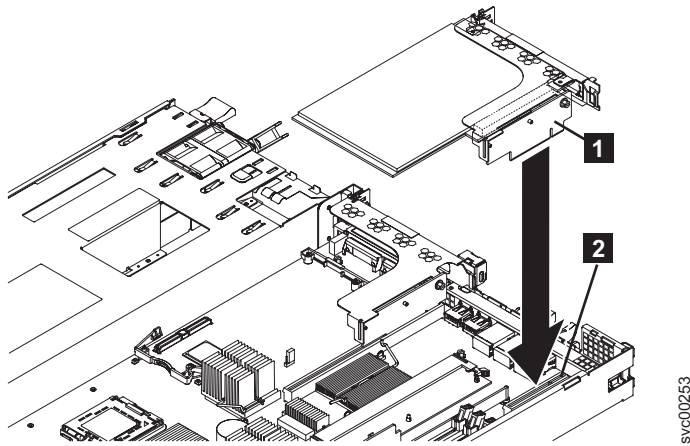

Figure 182. Replacing the riser-card assembly for the SAN Volume Controller 2145-8G4
1. As you start inserting the adapter, align the edge connector on the low-profile adapter **1** with the connector **3** on the riser-card assembly **4**. Make sure that the adapter snaps into the riser-card securely. Press the riser-card edge connector firmly into the system-board connector. **5**, as shown in Figure 182 on page 197.